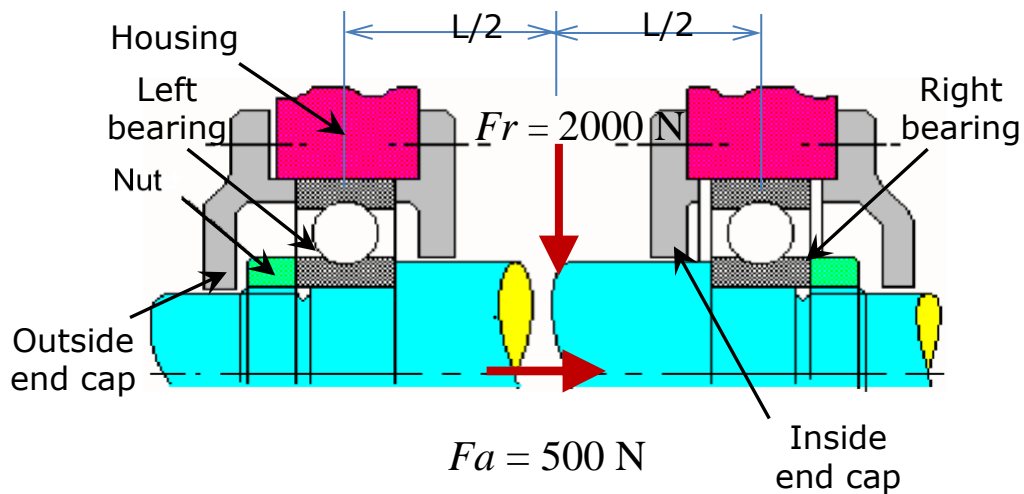

Figure Q1-1
- (c) Figure Q1-1 shows a rotating shaft supported by a pair of deep groove ball bearings to take a radial load ($F_r = 2000 \text{ N}$) at the centre of the bearing span and an axial load ($F_a = 500 \text{ N}$) to the right. The direction of the radial load is stationary to the housing. There are considerable temperature changes in operation.